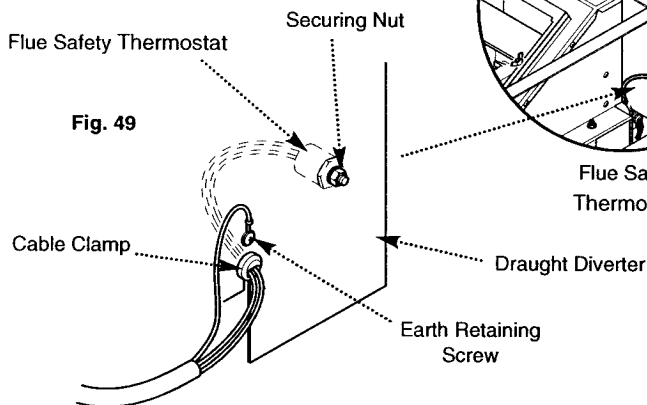

Fig. 49
2. Undo the screw retaining the earth wire to the boiler and disconnect the plug on the Flue Safety Thermostat cable from the boiler harness (Fig. 49).